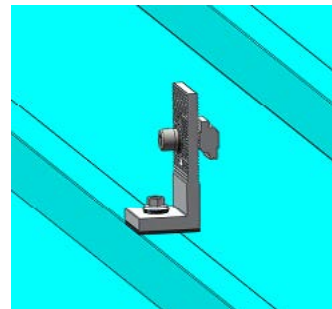

Figure 1
5.1.1 Fix the Tin Interface on the metal purlin with a self-tapping screw (Clenergy Tin interface is equipped with one Buildex 14-11 x 70 Hex Head Zips screw) according to the installation plan. Ensure that the Tin Interface in the front and rear or left and right directions are aligned using string as shown in Figure 1.